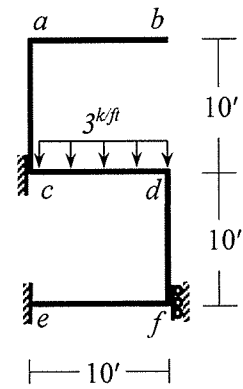

Fig.4
- Use stiffness method (neglecting axial deformations) to calculate deflection of joint *f* and rotation of joint *d* of the frame *abcdef* loaded as shown in Fig.4